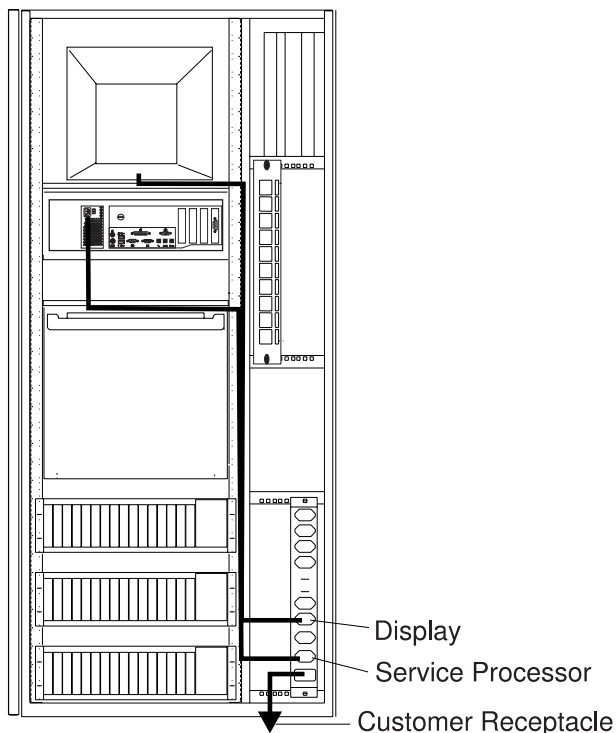

Figure 1-12. Power Cords Connection
18. Route and connect the power cords (PN 58G5783) from the display and service processor unit to the ac outlet distribution box as shown in Figure 1-12. Secure these cables using tie clamps along the frame, then go to step 20.